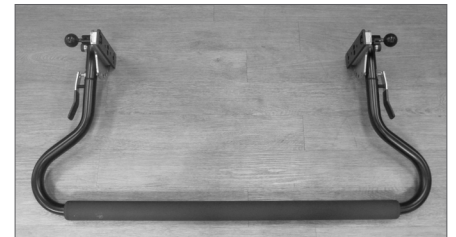

Figure 4
4. Slide the footbar assembly out of the tracks and set it on the ground with the seam in the foam facing down. See Figure 4.